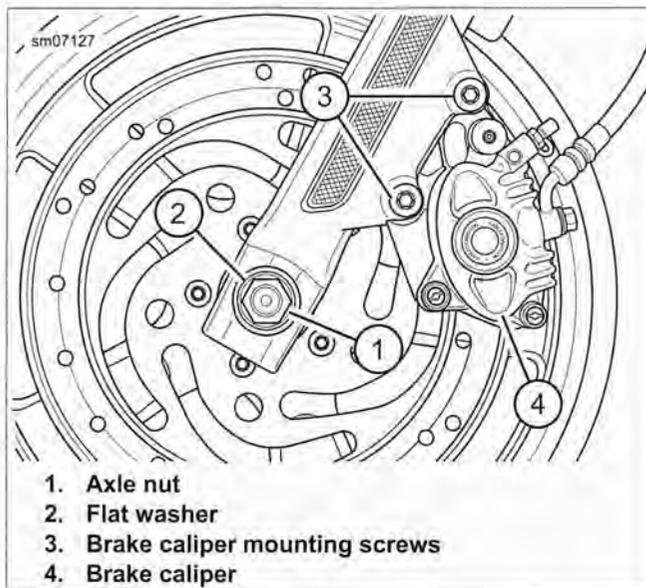
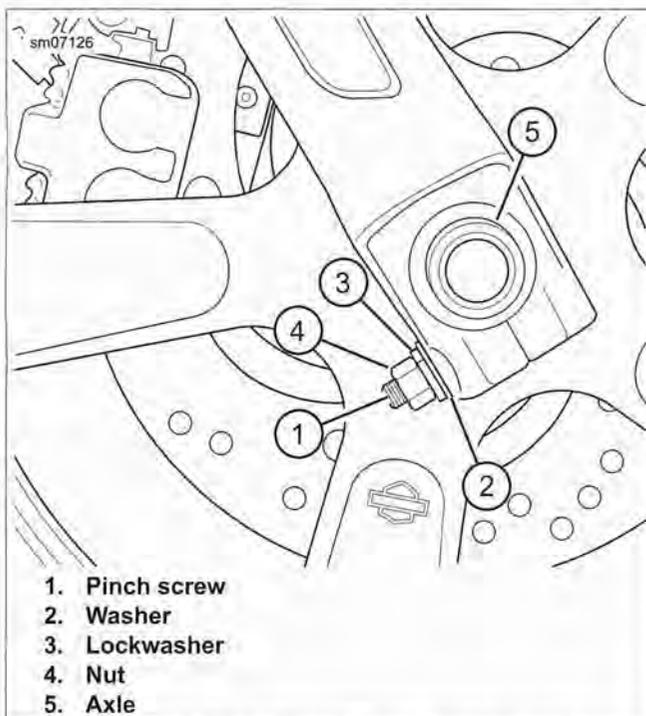

Figure 2-5. Left Side Front Wheel Mounting
Figure 2-6. Right Side Front Wheel Mounting
2. See Figure 2-5. Remove brake caliper mounting screws (3). Slide caliper (4) off brake disc and secure caliper out of the way.
4. Remove axle nut (1) and flat washer (2) from axle on left side of vehicle.
5. See Figure 2-6. On right side of vehicle, loosen nut (4) on pinch screw (1). Pull axle out of hub while supporting wheel.
- See Figure 2-6. With pinch screw loose, insert threaded end of axle through right side fork. Push axle through fork and wheel hub until it begins to emerge from left side of hub.
- See Figure 2-5. Install flat washer and axle nut over threaded end of axle. Insert screwdriver or steel rod through hole in axle on right side of vehicle. While holding axle stationary, tighten axle nut to 60-65 ft-lbs (81-88 Nm).